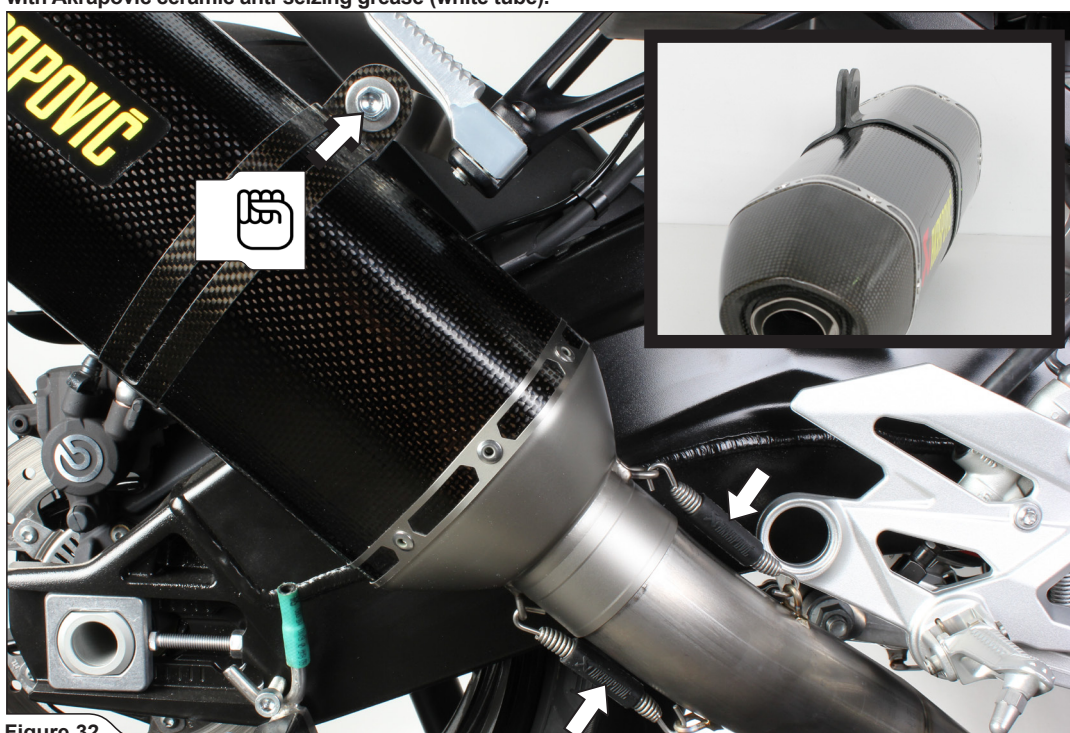

Figure 32
9. Correctly position the carbon-fiber clamp and slide it onto the muffler - bear in mind the **right offset** of the clamp; position the muffler correctly and slide it onto the outlet side of the link pipe, attach the springs and hand tighten clamp onto the muffler's bracket (Figure 32).